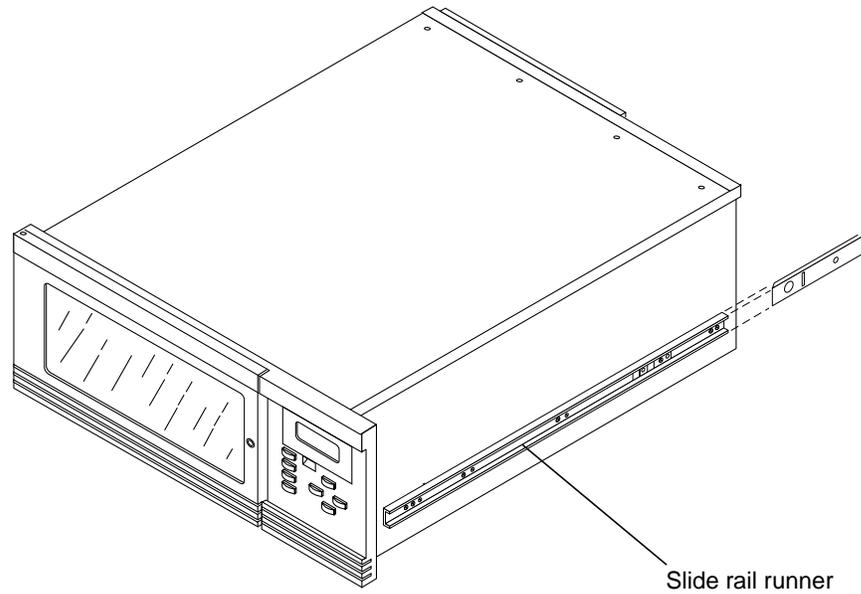

FIGURE 4-2 Installing Slide Rail Runners
2. **Install runners on the tape library (FIGURE 4-2).**